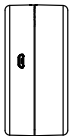

Figure 1
- Place Pooli as shown in figure 1, and look at the arrow.